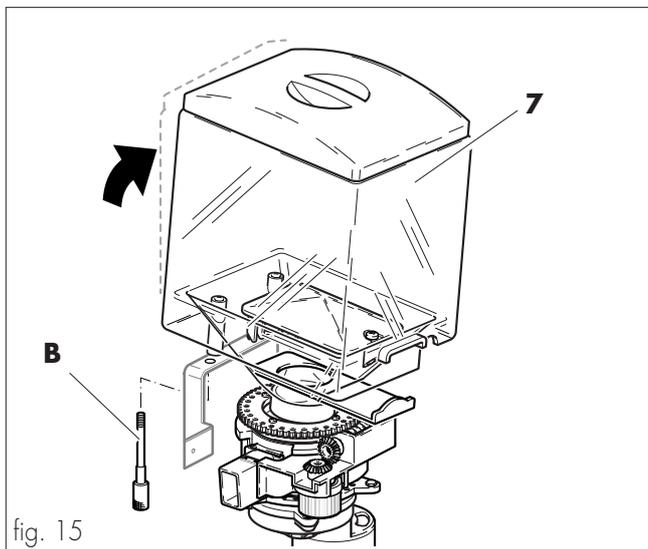

fig. 15
- Remove the screws (ref. **B**, fig. 15) from the hopper (ref. **7**, fig. 15), and then slide this out of the machine by rotating it slightly upwards from the back.